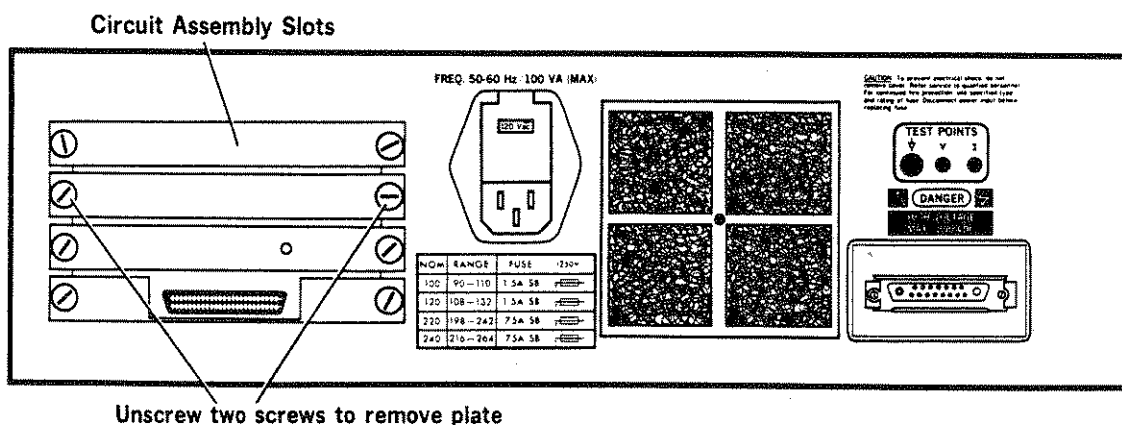

Figure 7-35. Circuit Assembly Slots
The optional interfaces may be installed in any of the circuit assembly slots located in the rear of the instrument. Figure 7-35 indicates the location of these slots. As there are no switches or jumpers on any of these interfaces, nothing must be done to the interface itself before installation. The procedure that follows describes the installation of an interface. For information regarding the electrical connections that must also be made, refer to the appropriate section that follows.
- STEP 2. Unscrew the two screws that secure the plate that covers the particular circuit assembly slot in which the interface will be installed. Figure 7-35 identifies these screws.